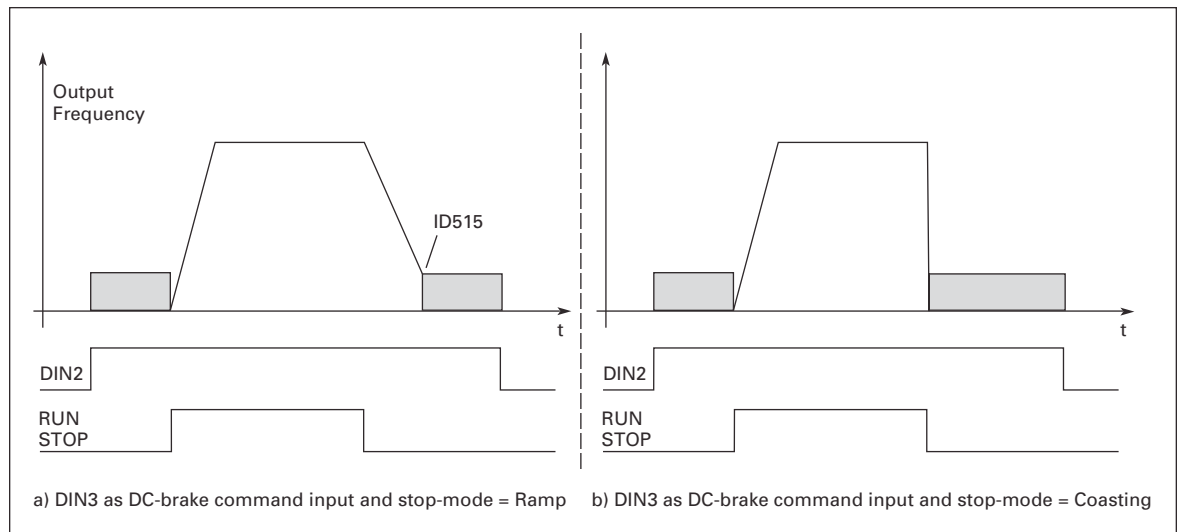

Figure 8-9: DIN3 as DC-Brake Command Input
- 12** DC-braking command, contact closed = In Stop mode, the DC-braking operates until the contact is opened, see **Figure 8-9**.